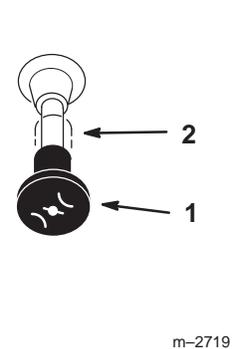

Figure 16
4. Move the choke control to “ON” position before starting a cold engine (Fig. 16).
7. After the engine starts, move the choke to “OFF” (Fig. 16). If the engine stalls or hesitates, move the choke back to “ON” for a few seconds. Then move the throttle lever to desired setting. Repeat this as required.